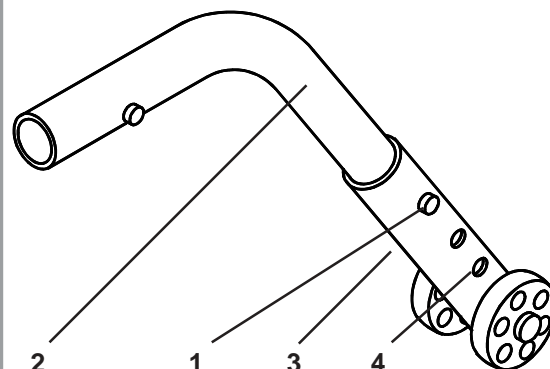

Fig. 32
The anti-tip tubes (Fig. 32) can be changed in height, by pressing in the location pins (1) in the anti-tip tube (2) and sliding the anti-tip adjusting sleeve (3) to the desired position. The location pin will snap into the desired hole (4) in the adjusting sleeve.